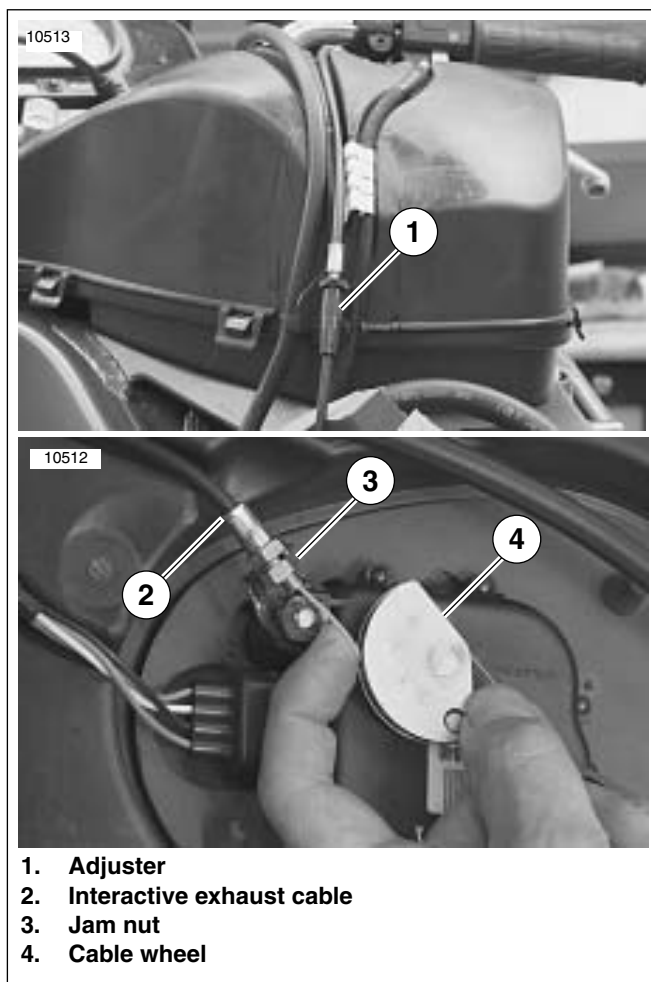

Figure 1-44. Interactive Exhaust Cable
3. See Figure 1-44. Loosen jam nut (3).
4. Remove cable (2) from bracket and cable wheel (4).
- a. See Figure 1-44. Move cable with your fingers from side to side. There should be no more than 1/8 in. (3.18 mm) sideplay in cable in either direction with 1/4 in. (6.36) maximum overall sideplay.
- b. Adjust cable as needed using cable adjuster (1).
11. See Figure 1-44. Verify that the interactive exhaust cable (1) is routed behind the frame lug (2) before installing air intake cover.